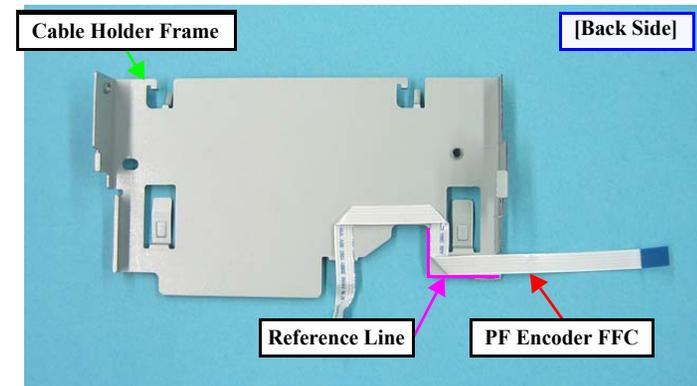

Figure 4-74. Removing the PF Encoder FFC
- When installing the Cable Holder Frame, attach the PF Encoder FFC along with the reference line shown in Fig.4-74 (p.84).